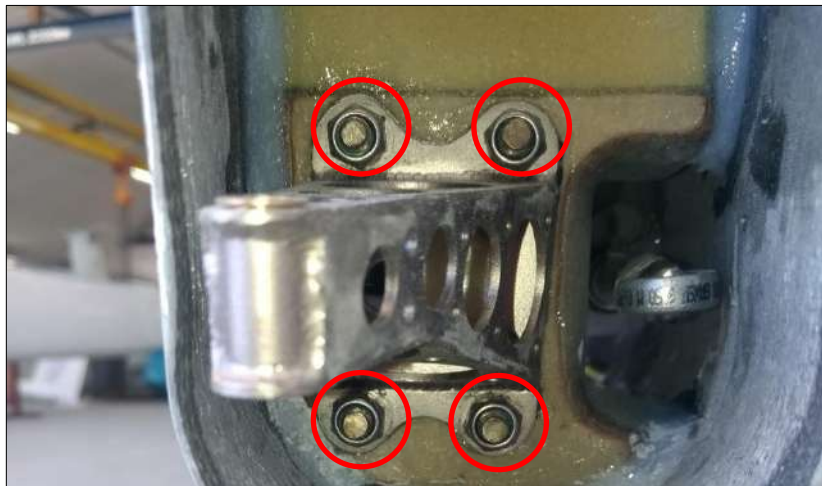

Figure 27-12: Rudder bottom hinge nyloc nuts
2. Remove the four nyloc nuts attaching the bracket to the composite as shown in Figure 27-12 using a ¼" ratchet with an extension and a 10 mm socket.